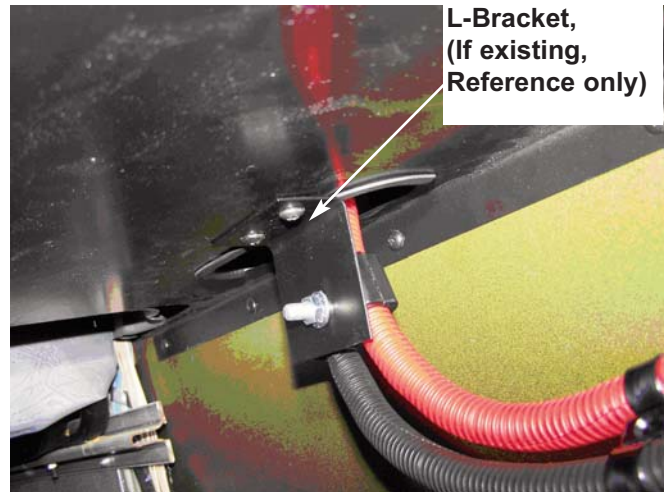
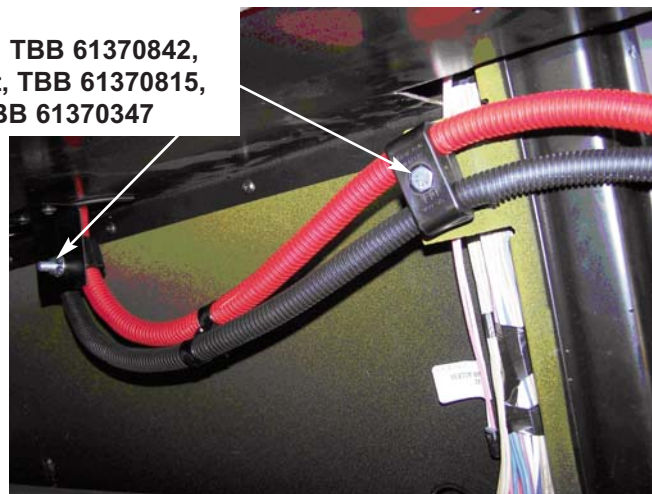

Figure 17
Figure 18
11. Route cables from PDM (**Figure 15**), to the floor pass-thru (**Figure 16**). Attach upper/rear Dual Cable Clamp TBB 61371384 to the L-Bracket (**Figure 17**), and the front lower Dual Cable Clamp TBB 61371384 to the support bracket (**Figure 18**). Insure that the cable assembly has sufficient clearance between bus body structures.